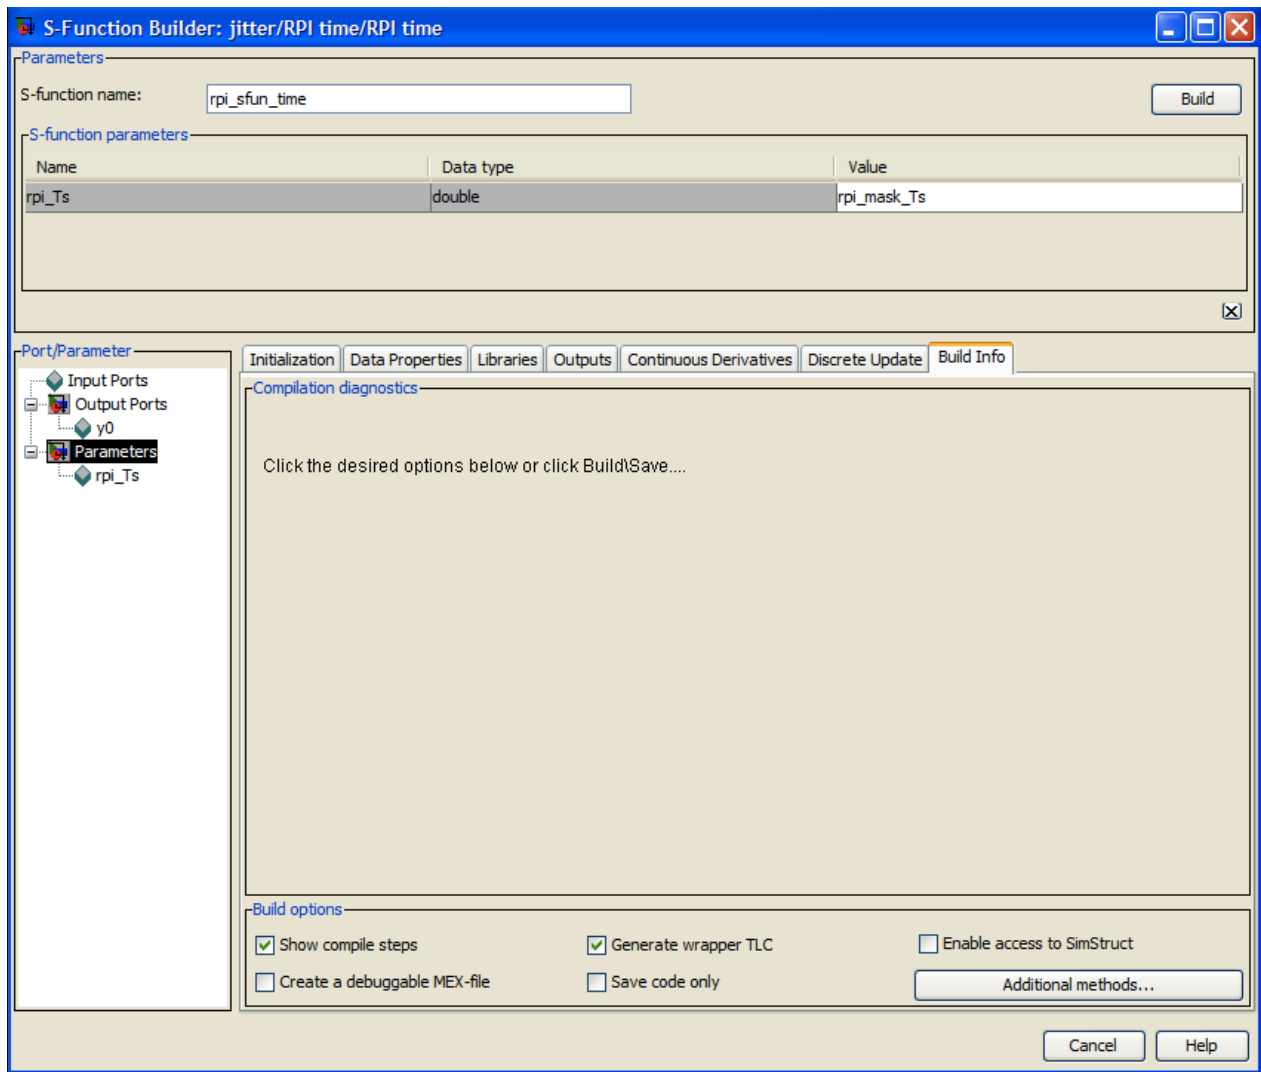

Figure 16 - S-function build options
9. In the “Build info” pane (Figure 16), you should select “Generate wrapper TLC”. Optionally, you can select “Start” and/or “Terminate” by pushing the “Additional methods” button if you need a specific constructor and/or destructor function to be created in the generated TLC file.